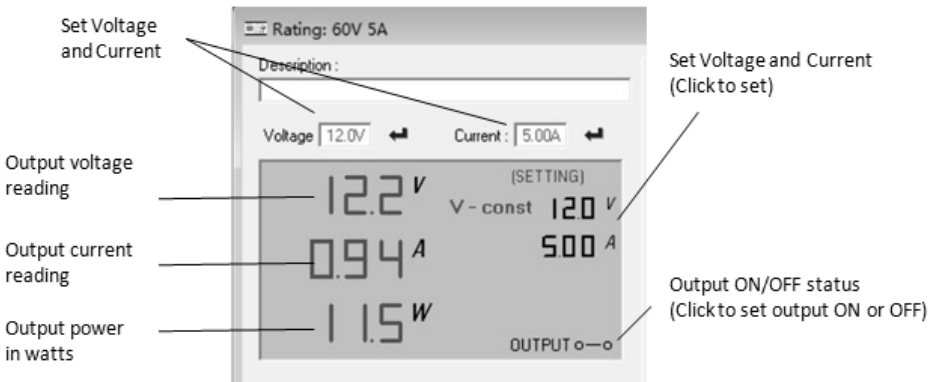

Figure 7 - PC Software General Functions and Display
2. Prepare two 5 k Ω variable resistors and connect wires from pins 1, 2, 3, and 4 as shown in Figure 7.